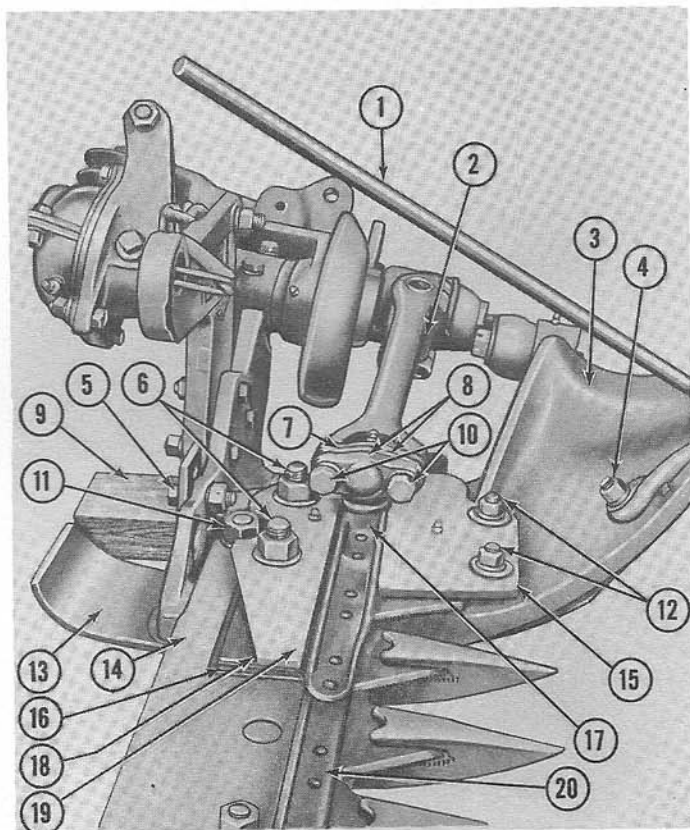

Figure 26
13. Assemble the cutter bar (14), Figure 26, to the inner shoe (3), as follows:
- a. Slide the knife (20) into the cutter bar (14) and position the cutter bar over the inner shoe assembly.
- b. Attach the cutter bar (14) to the inner shoe (3), using the bolt, flat washer, lock washer, and nut (11).
- c. Attach the rear guide plate (16), shims (18), and knife guide assembly (19), to the inner shoe and cutter bar, using the two bolts (6),